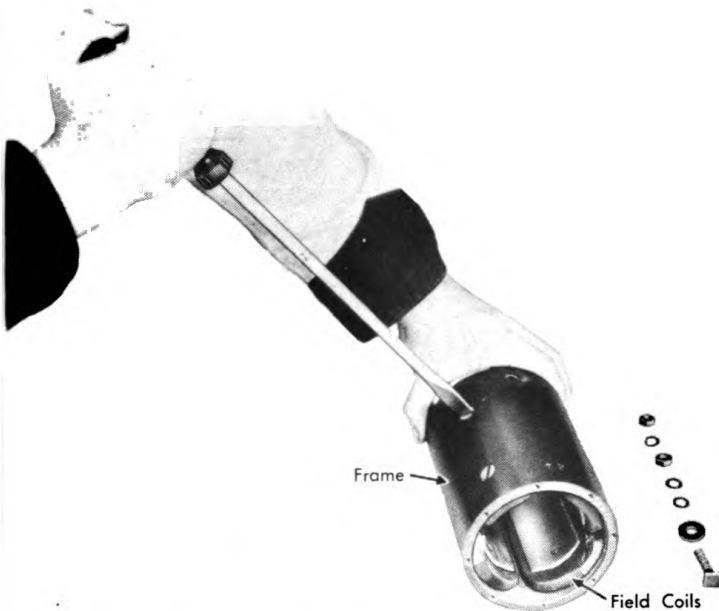

Figure 260. Removing pole piece screws.
b. Take out the pole piece screws and remove the pole pieces and field coils. See Figure 260. Inspect the field coils for faulty insulation and check for opens with the test lamp and probes. **NOTE:** If it is necessary to replace any field coil, make sure the connectors are clinched tightly and soldered properly.